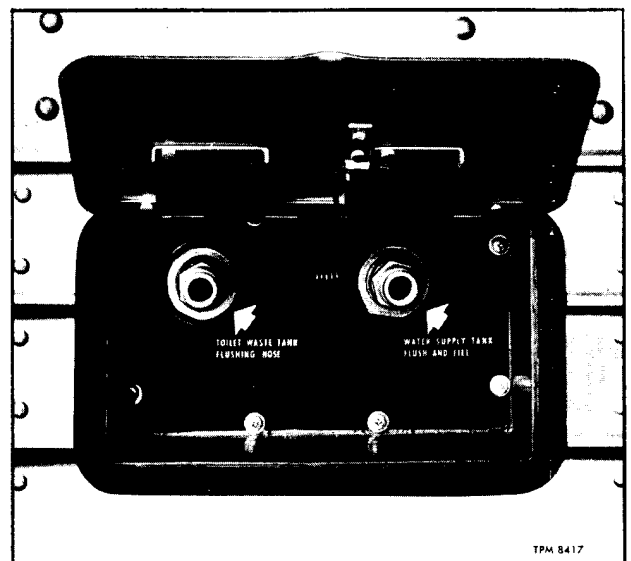
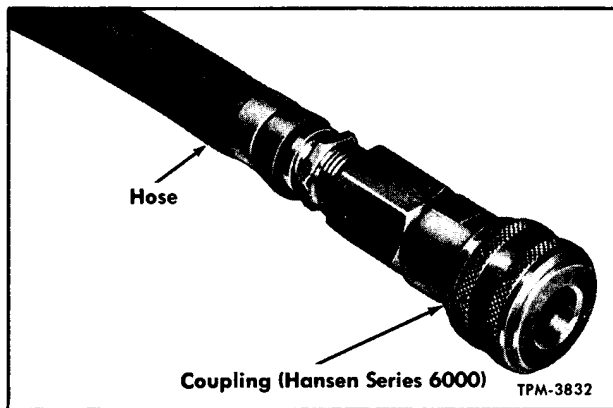

Figure 59—Lavatory Water Service Fittings
Figure 60—Service Hose and Coupling
Lavatory filling, and flushing service line fittings are accessible after opening access door at right rear side of coach (fig. 59). Ends of lines are equipped with quick release coupling fittings to which a flexible service hose with a mating coupling (fig. 60) can be attached for servicing tanks.
1. Lift access door over service line fittings at right rear of coach (fig. 59), then connect water supply hose to front fitting marked "WATER SUPPLY TANK FLUSH AND FILL."
1. Lift access door over service line fittings at right rear of coach (fig. 59), then connect water supply service hose to rear fitting marked "WATER WASTE TANK - FLUSHING HOSE."